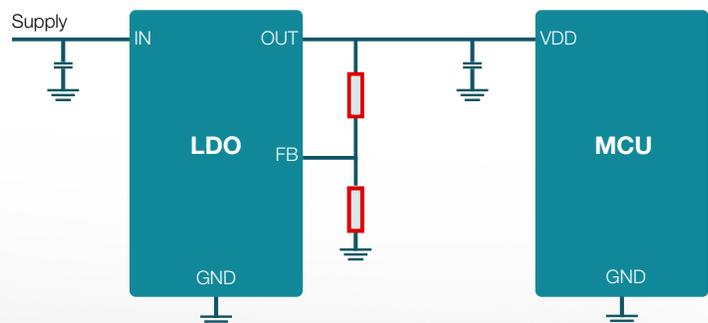

Figure 2: LDO adjustable output application circuit.
A linear voltage regulator's output voltage is adjustable by using an external resistor divider when a feedback (FB) pin exists (Figure 2). Equation 1 calculates the output voltage: